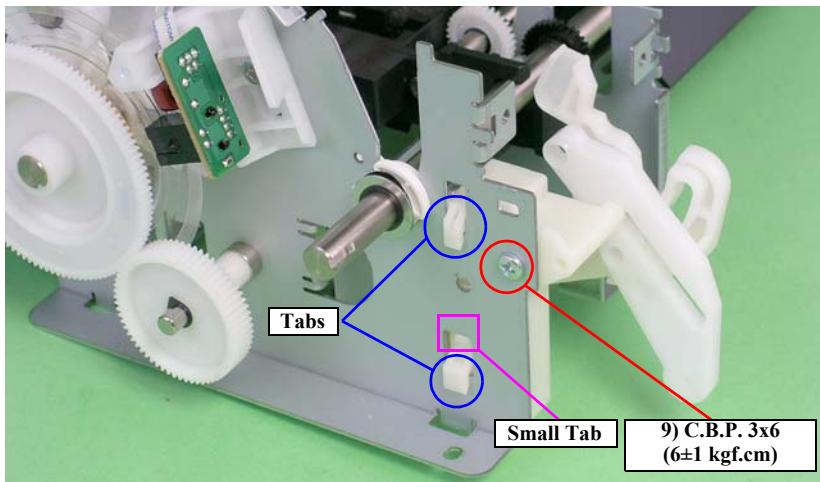

Figure 4-94. Removing the Left CD-R Release Lever Sub Assy
- Align the two tabs on the Left CD-R Release Lever Sub Assy with the positioning holes on the Main Frame. See Figure 4-94.